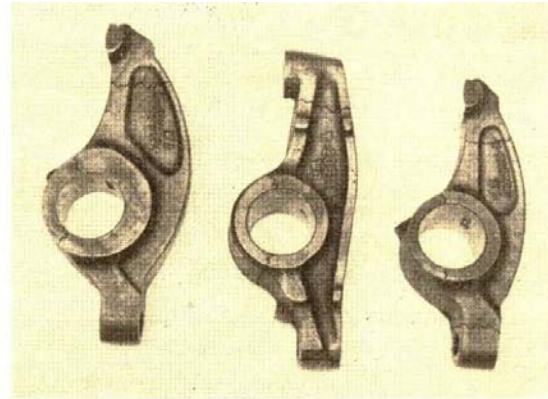

Fig. 3.3. Magnetic inspection crack indication
4. Inspect for surface defects by magnetic inspection. Apply coil amperage at 300 to 500 with residual Magnaflux. See Fig. 3-3 for most likely areas. Magnetically remove all magnetism from acceptable parts.